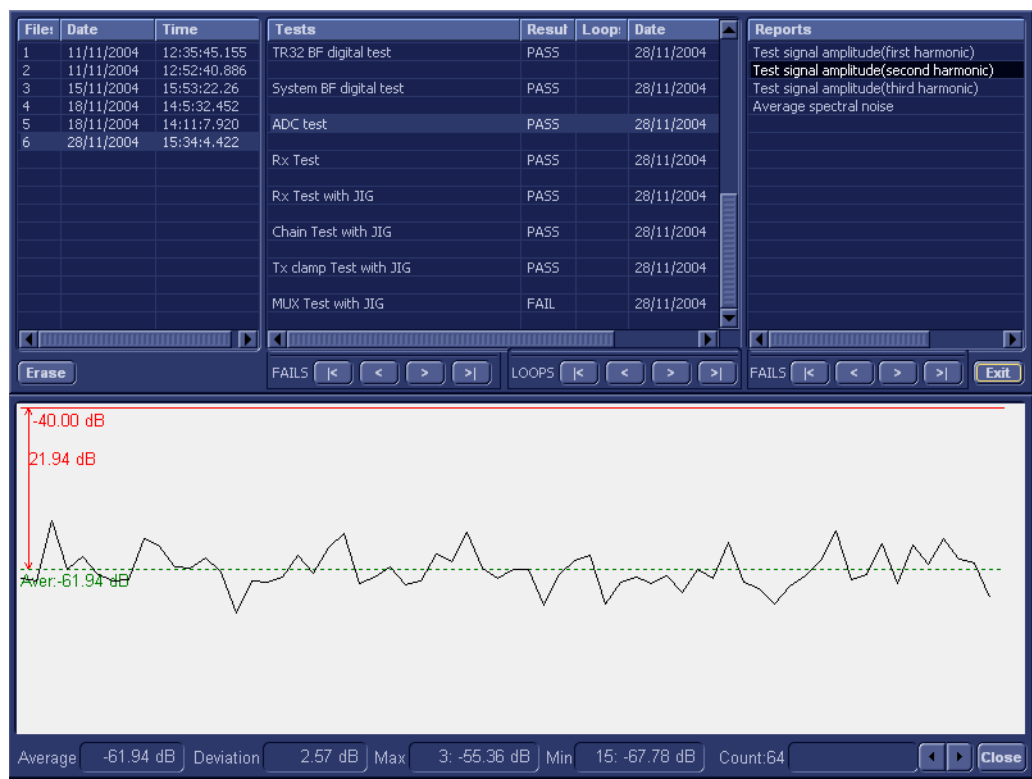

Figure 7-29 View Test Log - Second Harmonic
- 9.) Select the second report (the report is highlighted in the *Reports* list, and the corresponding results are shown in the Report window below, as shown in Figure 7-29).
- 9) Select the second report (*Frequency*); the report is highlighted in the *Reports* list, and the corresponding results are shown in the Report window below, as shown in Figure 7-29.